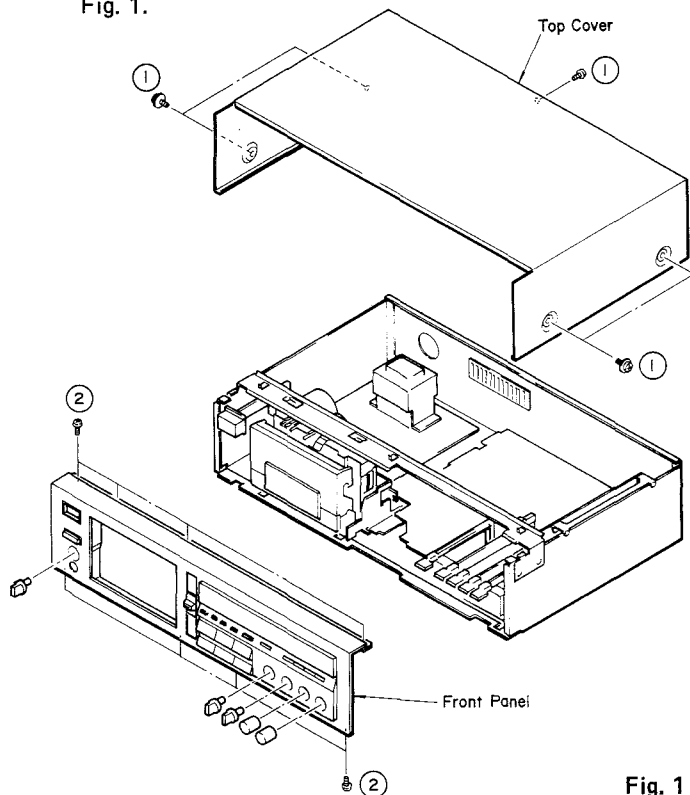

Fig. 1
- ④ MAIN CIRCUIT BOARD (7)
- ⑤ MAIN CIRCUIT BOARD (6)
- ⑥ MAIN CIRCUIT BOARD (5)
- ⑦ CASSETTE MECHANISM UNIT
- ⑧ MAIN CIRCUIT BOARD (3)
- ⑨ MAIN CIRCUIT BOARD (4)
- ⑩ MAIN CIRCUIT BOARD (2)
- ⑪ 4-bit μ -COM: LC6554H-3451
Remove 5 screws (①) in Fig. 1.
- Pull off 5 knobs in Fig. 1.
- Remove 8 screws (②) then pull off front panel in Fig. 1.